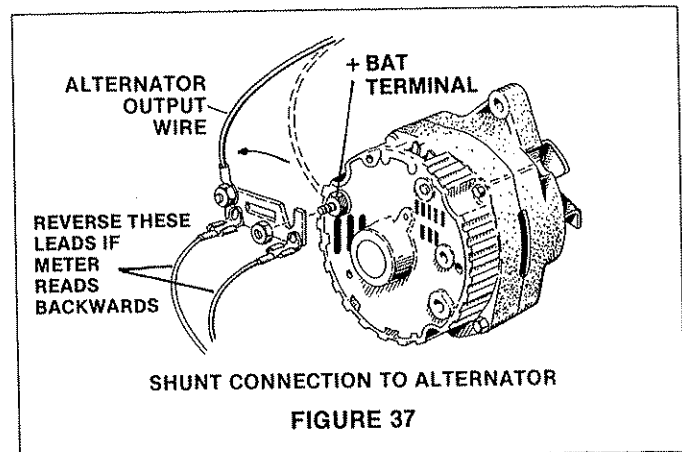

**FIGURE 36**
5. Set the Slide Switch on the TUNE-UP ANALYZER to the AMPS position. Set the FUNCTION SELECTOR Switch to the VOLTS position. When making measurements, observe the test reading on the 0 to 100 AMPS scale as shown in Figure 36. If the meter reads backwards during this test, reverse the leads on the shunt as shown in Figure 37.